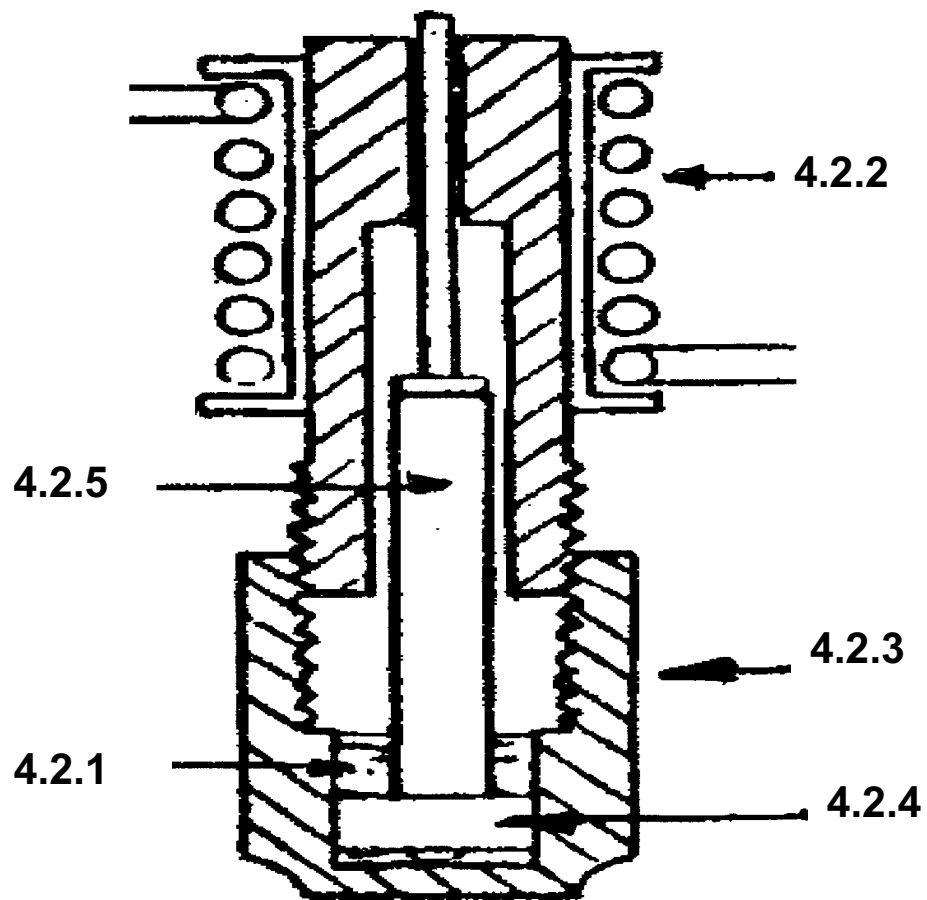

FIGURE 1
- 4.2 Study FIGURE 1 on the attached DIAGRAM SHEET and answer the following questions. Write only the answer next to the question number (4.2.1– 4.2.5) in the ANSWER BOOK.